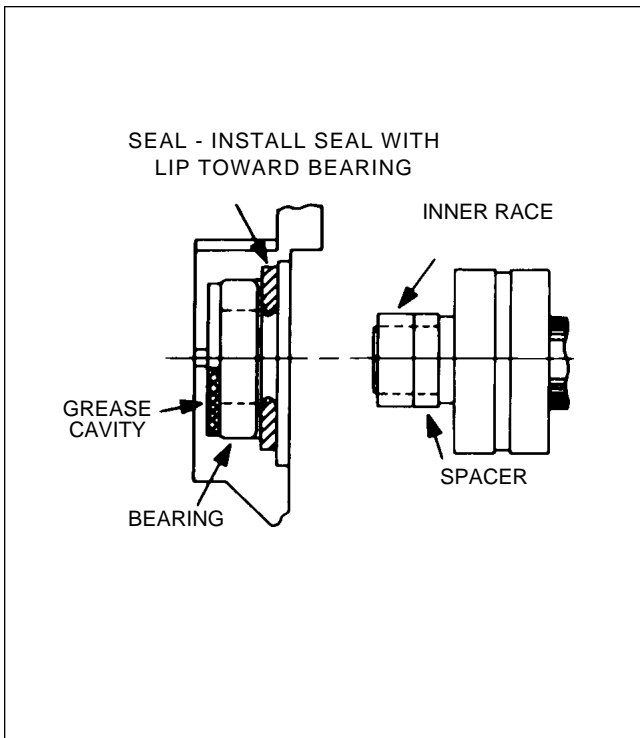

Figure 24-12. Slip Ring End Bearing Assembly
- e. Install slip ring end bearing and oil seal. Verify oil seal lip is toward bearing. Stake oil seal in place. Assemble bearing, seal, inner race, and spacer as in Figure 24-12.